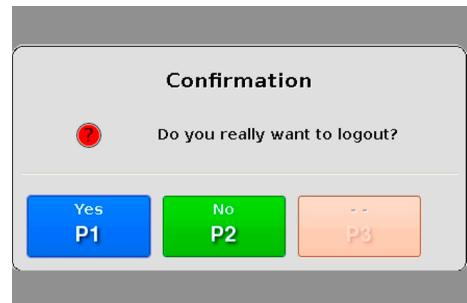

Fig. 24: Logout confirmation screen
- ▷ Select the "Logout" menu item by pressing **P1**. The logout confirmation screen (see Fig. 24) is displayed. Choose **P2** to jump back to the main screen.